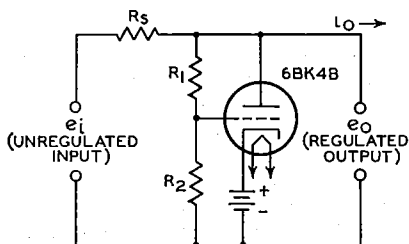

Fig. 92—High-voltage regulator circuit for color television.
**Shunt Regulator Circuit**—Fig. 92 shows the schematic diagram of a typical shunt regulator circuit. This circuit uses a 6BK4B sharp-cutoff beam triode for the regulator tube and is suitable for regulation of the output of a high-voltage, high-impedance supply. The cathode of the 6BK4B beam triode is held at a fixed positive potential with respect to ground. Because the grid potential is kept slightly less positive by the voltage drop across resistor  $R_2$ , the tube operates in the negative grid region and no grid current is drawn.